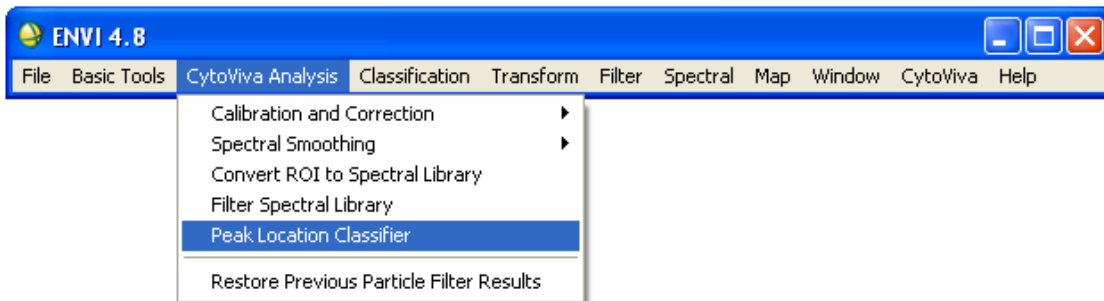

Figure 12a. CytoViva Analysis tab
- Go to the CytoViva Analysis tab, Select peak Location Classifier from the drop down menu (Figure 12a).